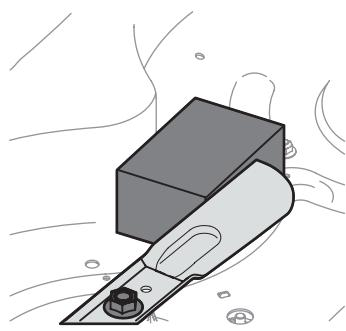

Figure 26
- Place a block of wood between the deck housing baffle and the cutting blade to act as a stabilizer. See Figure 26.